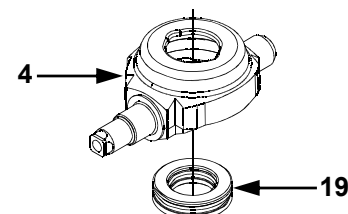

Figure 18
13. **(See Fig. 18)** Remove the thrust bearing assembly (19) from the swashplate (4).
14. (See Fig. 18) Install the pump thrust bearing (19) in the trunnion machined swashplate (4). NOTE: Place the thin race of the bearing towards the swashplate. The thick race must face the pistons.